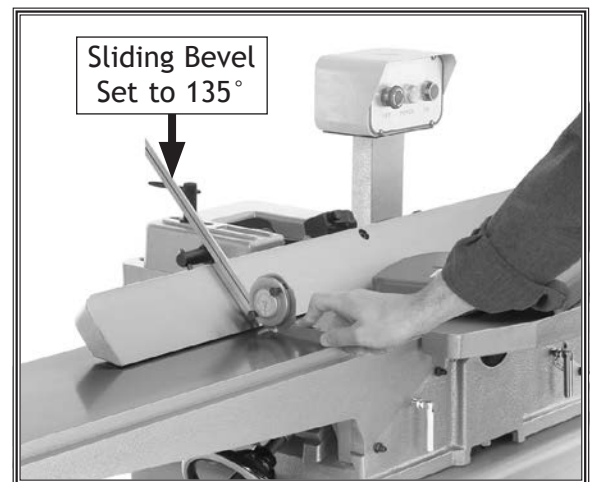

Figure 61. Example of adjusting fence to 45° outward (135°).
3. Place sliding bevel set to 135° against fence and table, as shown in **Figure 61**.